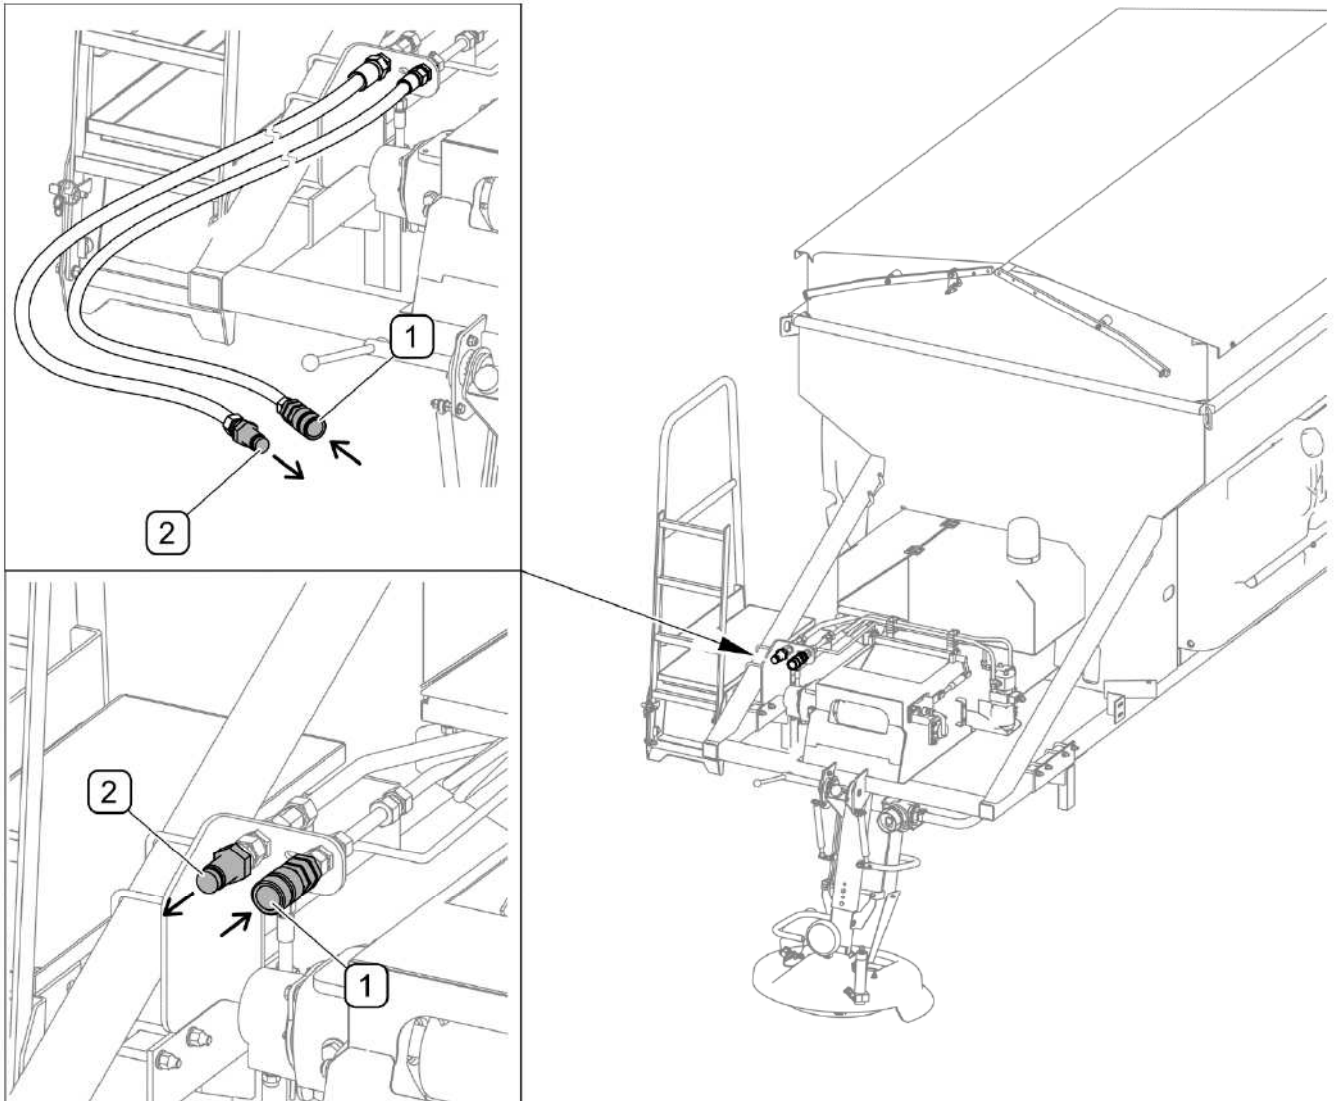

FIG. 4.10 **Connecting hydraulic system**
Supply line should be connected to hydraulic socket (1) while plug (2) should be connected to oil return line to the carrying vehicle's hydraulic system (FIG. 4.10).